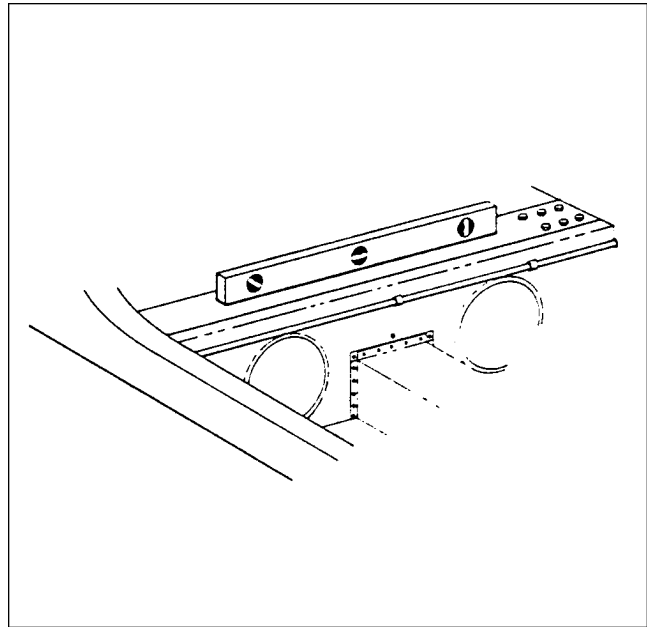

Figure 8-3. Leveling laterally
2. To laterally level airplane. Place level across spar box assembly located under rear seat. (Refer to figure 8-3.) Raise or lower one wing tip by deflating appropriate tire on high side of airplane or adjust either jack until bubble of level is centered.